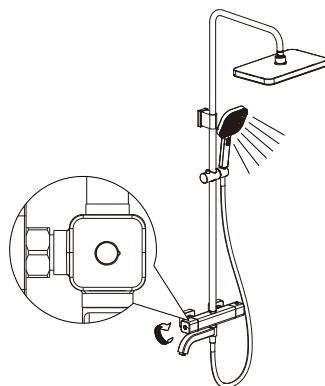

Figure 14B
- ② Rotate the diverter handwheel 90° clockwise from the closed position to switch to hand shower mode. (Shown in Figure 14B)